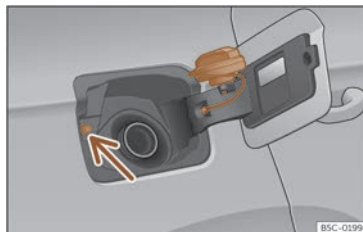

Fig. 206 Fuel tank flap with tank cap attached.
Avoid touching the fuel tank flap lock button » » » Fig. 206 (arrow). The system will interpret that you have finished and cannot continue refuelling. Press the  button on the driver's door again to continue.
- Place it in the space on the hinge of the open flap » » » Fig. 206 .